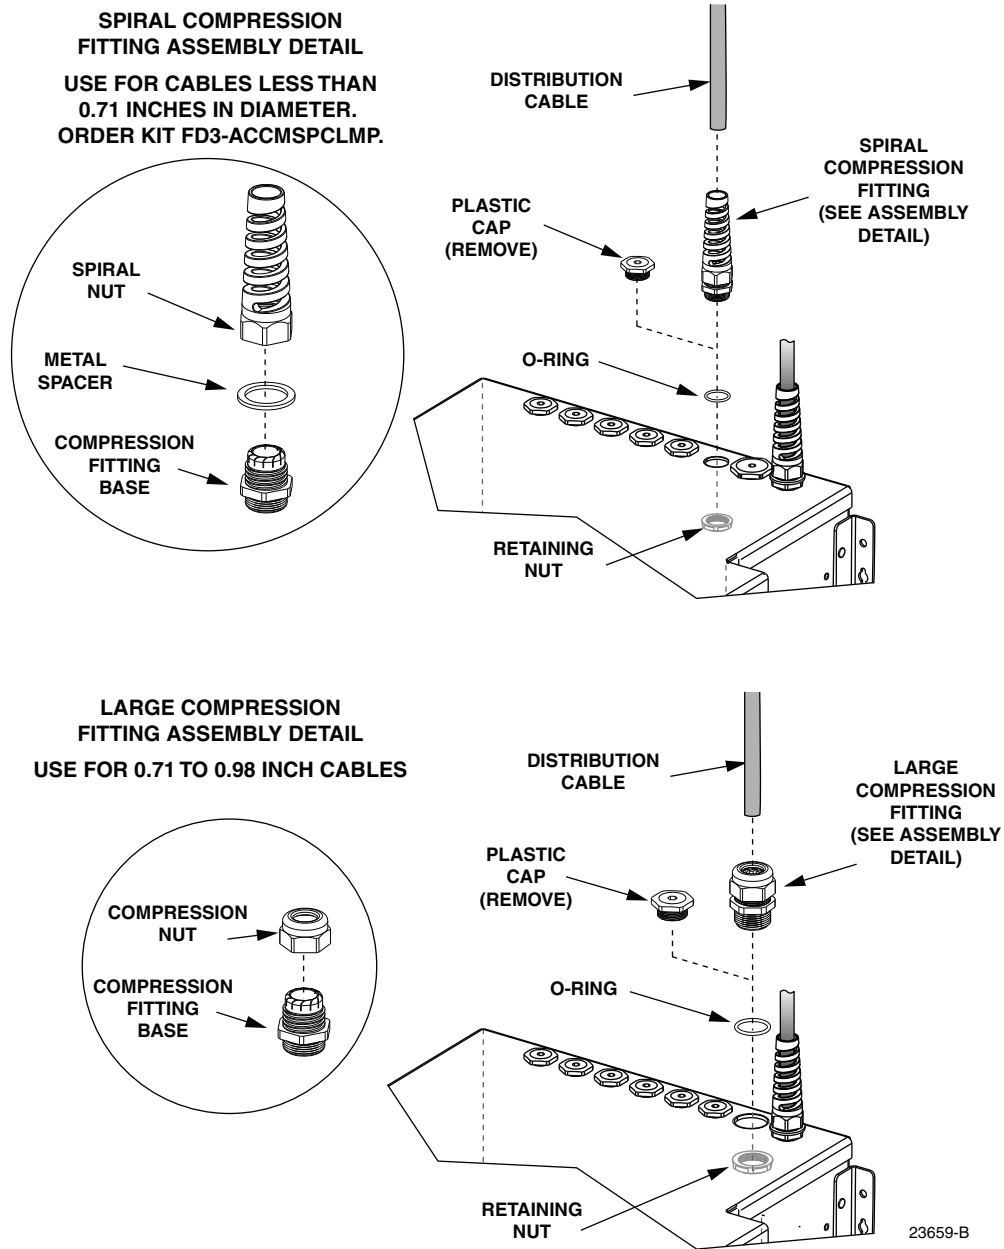

Figure 30. Plastic Cap Removal and Compression Fitting Installation
3. Remove the plastic cap and retaining nut from the selected cable entry/exit hole as shown in Figure 30. Save the retaining nut for reuse.
4. Locate the compression fitting that is shipped with the cabinet and then loosely assemble the compression fitting components (see Figure 30).